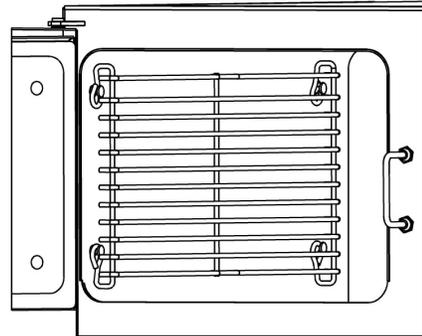

Figure 3-6
1. Refer to Figure 3-6. Each rack has four loops: two at the top and two at the bottom.
2. Hold the slide rack so the ends of the hanger loops are towards the cooking compartment wall, as shown in Figure 3-6.